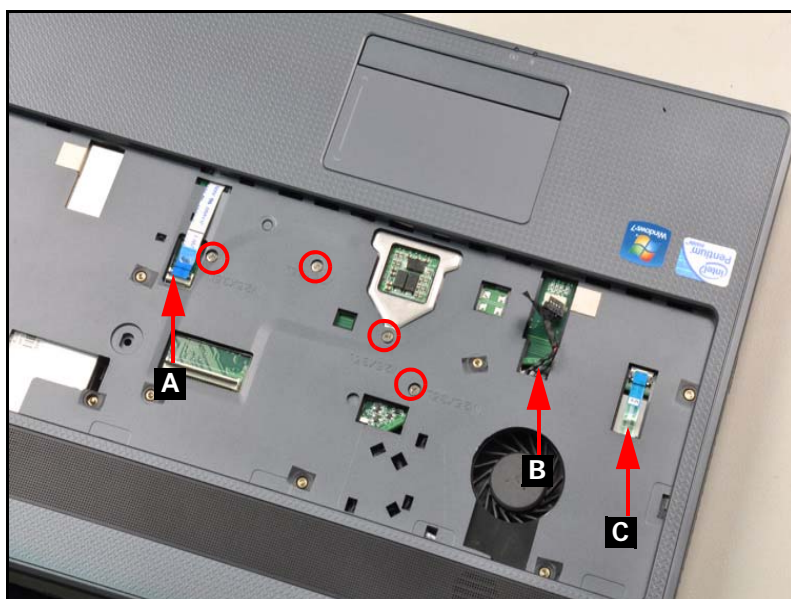

Figure 3-7. Base Cover Screw Removal
1. Disconnect the touchpad cable (A), speaker cable (B) and power cable (C) (Figure 3-7).
2. Remove the four (4) screws from the upper case (Figure 3-7).
3. Secure the four (4) screws. Refer to Figure 3-7.